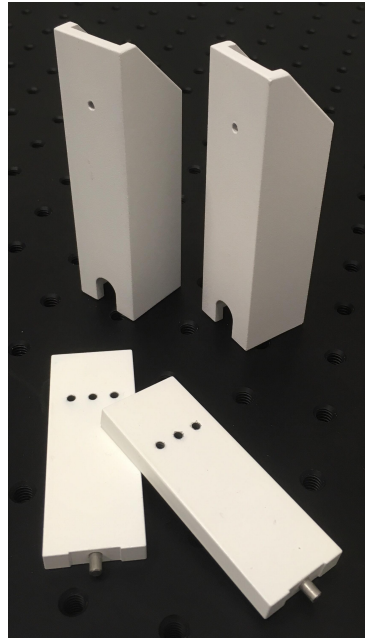

Figure 1: Alignment Towers And Paddles
-These are the alignment towers and alignment paddles, in Figure 1 below, you will be using to help align the laser beam. The paddles (Bottom) slot into the mirror/beam splitter mounts, while the towers (Top) simply sit on the bread board as in the picture.